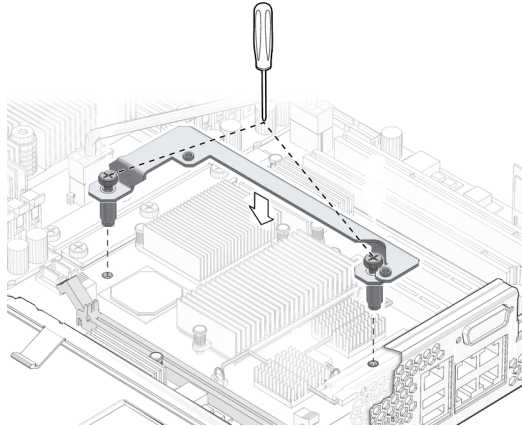

FIGURE 4-29 Installing the System Controller Bracket
7. Tighten the two screws that secure the system controller bracket to the motherboard assembly (FIGURE 4-29).